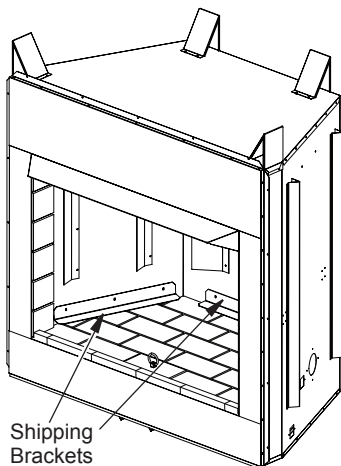

Figure 13 - Removing Shipping Brackets
1. The fireplace is shipped with the hearth preinstalled. It is held in place for shipping with 3 shipping brackets (Figure 13). Remove these brackets before installing any of the other firebrick walls.